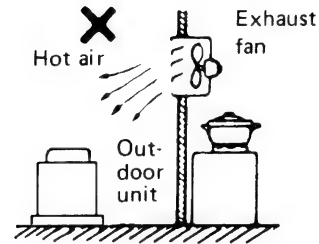

Fig. 3
- heat sources, exhaust fans, etc., Fig. 3